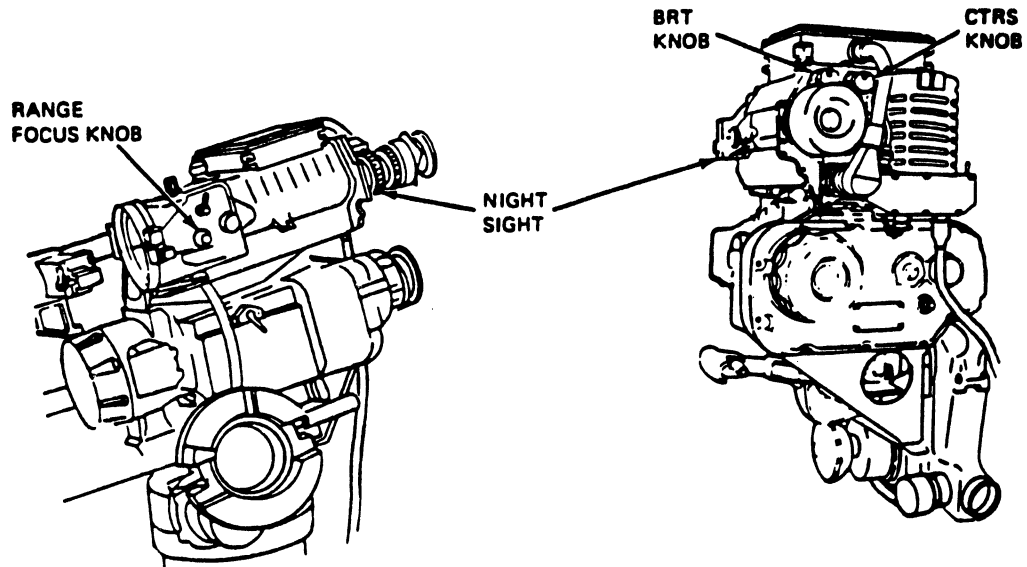

Fig 3-19. Range Focus Knob/BRT, CTRS knobs (Night sight).
Step 1. Adjust the BRT, CTRS, and RANGE FOCUS knobs on the night sight for the best focus of the displayed image (fig 3-19).